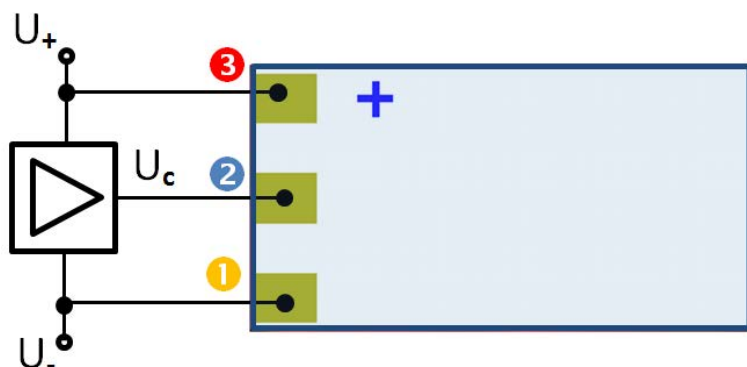

Figure 10: Electric connection scheme with
See Figure 10: In relation to the dot or “plus” mark, the nearest soldering pad No. 3 (or red wire respectively, if a PL1xx.11 model is used) must be connected to U_+ and the most distant soldering pad No. 1 (or yellow wire for PL1xx.11) has to be attached to U_- respectively. Soldering pad No. 2 (or blue wire for PL1xx.11) is intended for connection to the control voltage U_c generated by the piezo amplifier.
- Between soldering pads / wires No. 3 and 1 and for U_c : Do **not** exceed 60 V. See *Figure 10*.
Based on the **full differential-voltage control** (see *Figure 10*), bending can be controlled over the full range in both directions.